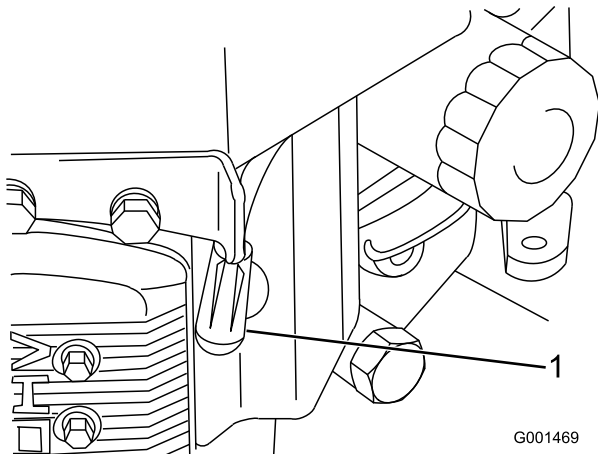

Figure 37
3. Disconnect the wire from the spark plug (Figure 37).